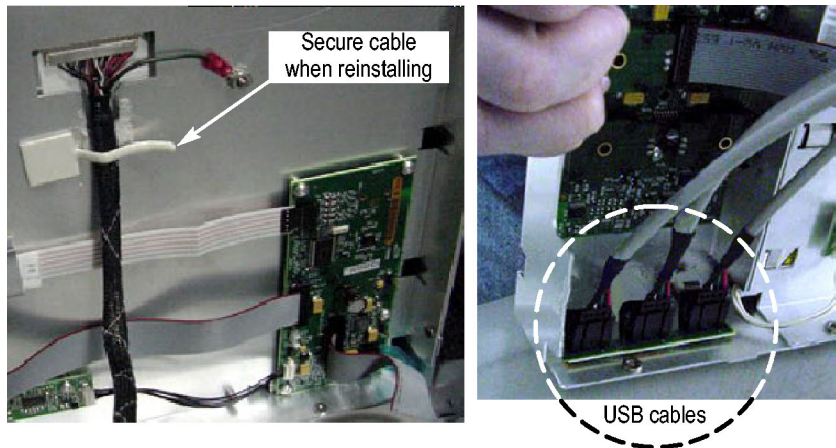

Figure 5: Front panel cable locations
11. Disconnect the two display cables and three USB cables from the front panel assembly. (See Figure 5.)